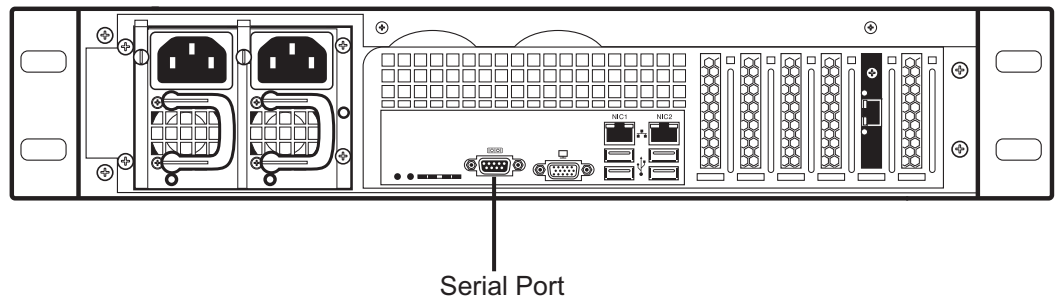

Figure 3.1 Tdev Development Platform Serial Port Connection
1. Connect a male-male DB9 cross-connect cable between the DB9 serial port of your computer and the DB9 serial port of the TMP6400-CTRL. See Figure 3.1 on page 53.